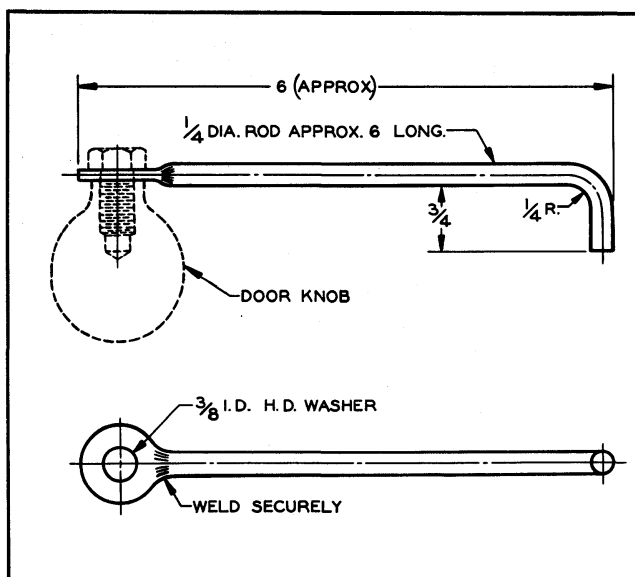

Fig. 4-16 Differential Cranking Tool
3. Insert crank (Fig. 4-16) in companion flange and, while turning, apply pressure to back side of ring gear with hand. A test made without loading the gears will not give a satisfactory pattern. Turn companion flange with crank so that ring gear rotates one full revolution, then reverse rotation so that ring gear rotates one revolution in opposite direction. Excessive turning of ring gear may indicate good tooth pattern because one or two teeth are making proper contact.
NOTE: The crank in Fig. 4-16 may be easily made as follows: